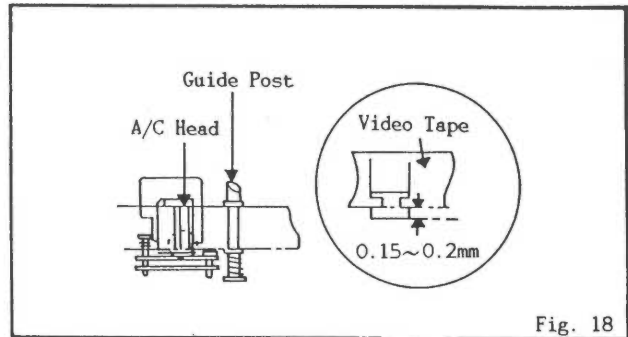

Fig. 18
3. Confirm that height and tilt of A/C Head against tape are as per Fig. 18.
5. Height of A/C Head against tape should be as per Fig. 18.